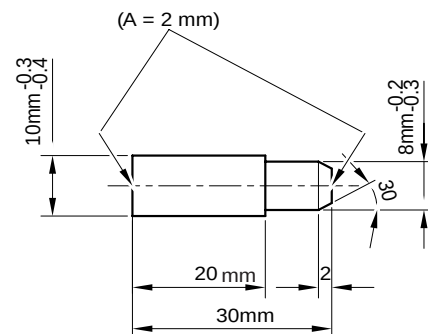

Fig 1.
- 14 Place cover **2** flat on a flat bench, apply special jig, ⇒ Fig 1. \(□ E-111\) to bush **23** and tap with a hammer to remove the bush